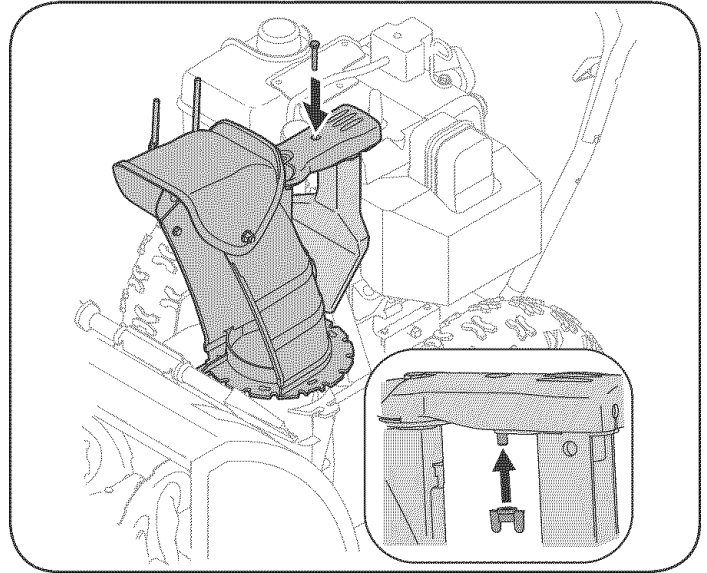

Figure 5
5. Finish securing chute control assembly to chute support bracket with wing nut and hex screw removed earlier. See Figure 5.